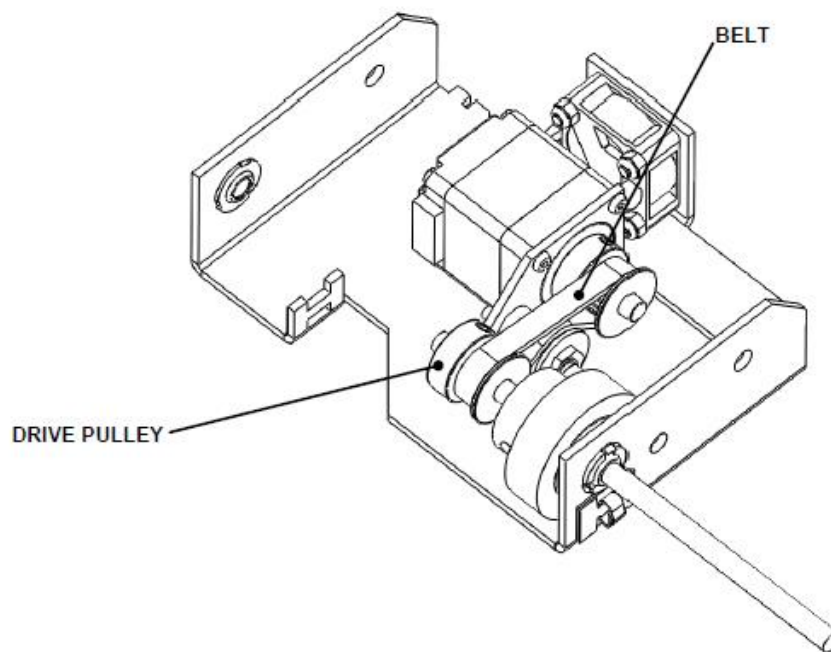

Figure I-9: Belt and Drive Pulley
2. Loosen the drive pulley and remove the belt (Figure I-9).